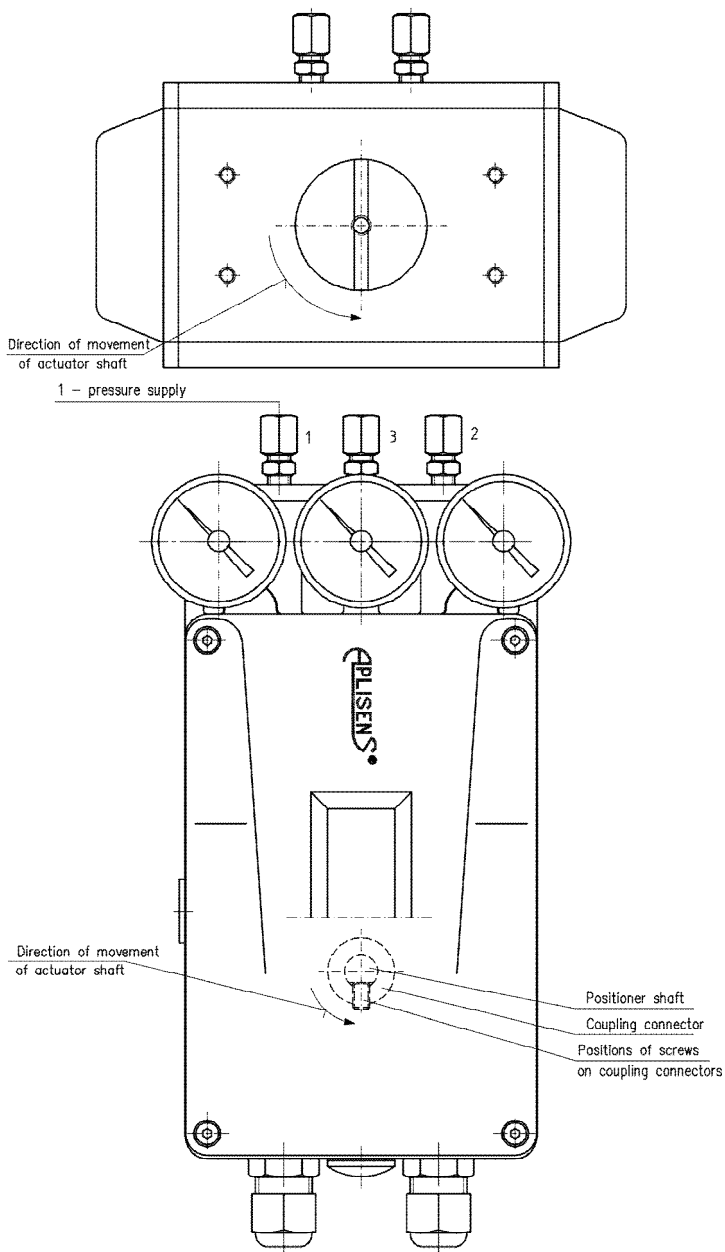

Fig. 10. Mounting position of the APIS-1X0-... and APIS-2X0-... positioner with respect to single-acting or double-acting actuator with rotational movement.
- b) Install the coupling connector on the positioner shaft by tightening it lightly with two M5 screws. Pay attention to support both fixing screws on flat bevel on positioner shaft - see Fig. 10.
- e) Check the direction of actuator shaft movement and position of screws on the coupling connector - Fig. 10.